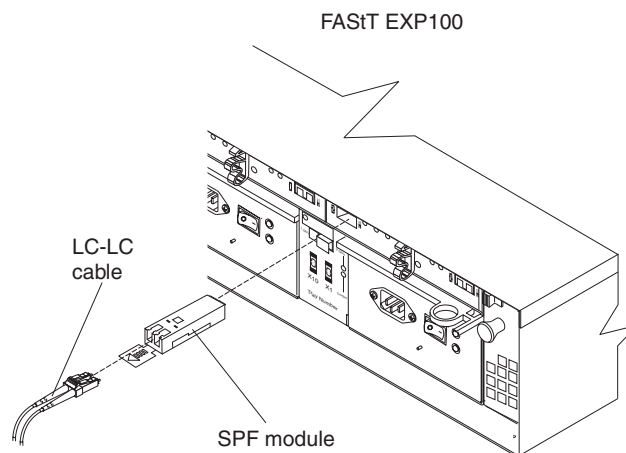

Figure 33. Installing an SFP module and connecting an LC-LC cable to the FAST EXP100
3. Insert an SFP module into the SFP port located on the back of the FAST EXP100; then, connect the other end of the LC-LC cable to the SFP module, as shown in Figure 33.